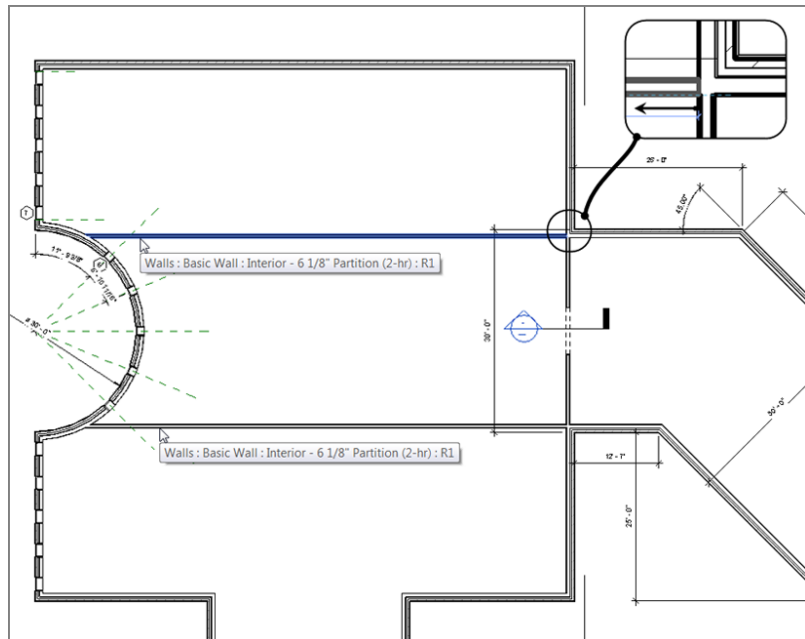

FIGURE 5.24: Adding two corridor walls
3. Draw two interior-partition (2-hr) corridor walls, as shown in Figure 5.24.